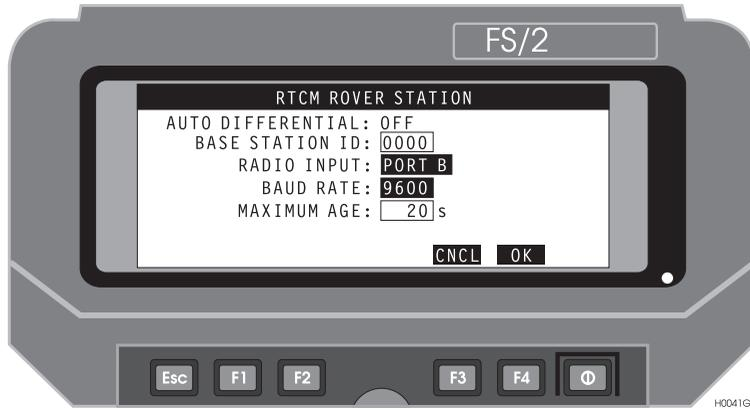

Figure 3.38: RTCM Rover Station Setup Screen
- In the Differential Mode screen, press F3 (ROVR), calling the RTCM Rover Station Setup screen, Figure 3.38.